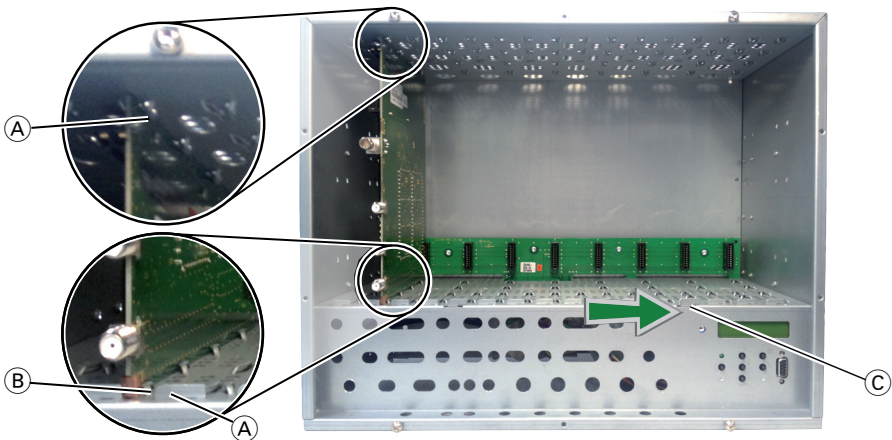

Fig. 3
- Insert the module in grooves (A) of an open slot (with contact strip on the board at the rear wall of the housing) and gently slide it into the head-end station until it makes contact with the board on the rear wall (fig. 3).
- After installing the module close the locking device (C) in the direction of the arrow (fig. 3). Ensure to get a well contact to spring (B).